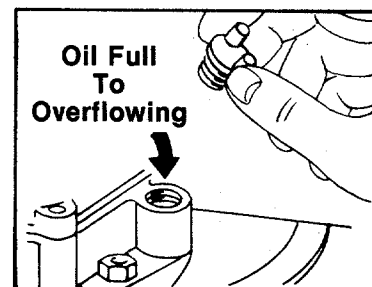

FIGURE 12.
**CHANGE OIL** after first 5 hours of operation. Thereafter change every 25 hours. Change oil while engine is warm. Oil may be drained through drain on bottom of engine. To drain completely, always place engine level when draining through the bottom. Oil capacity 1-1/4 pints. See figure 12.